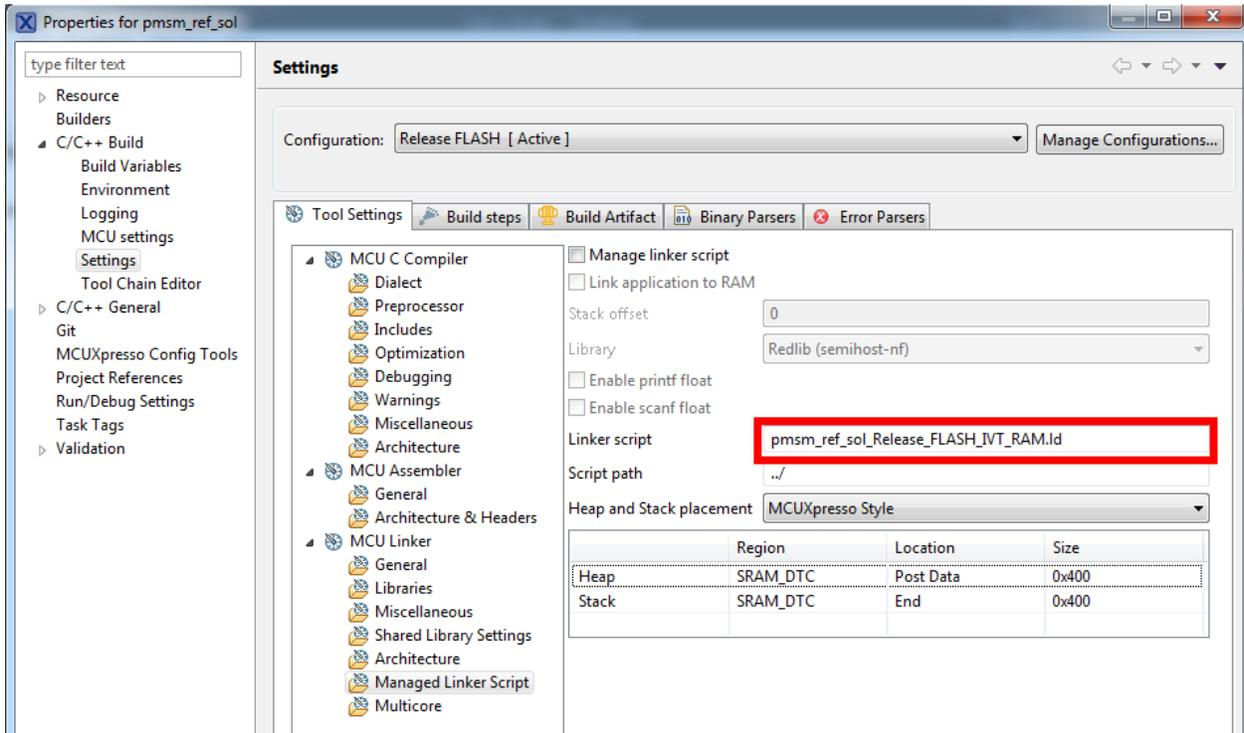

Figure 23. MCUXpresso linker file path
- Change the linker file path. Go to the “Project->Properties->C/C++ Build->Settings->Tool Settings” tab. Select “Managed Linker Script” in the list of the “MCU Linker” settings and find the “Linker script” text box. Change its value to “pmsm_ref_sol_Release_FLASH_IVT_RAM.ld” (see Figure 23).